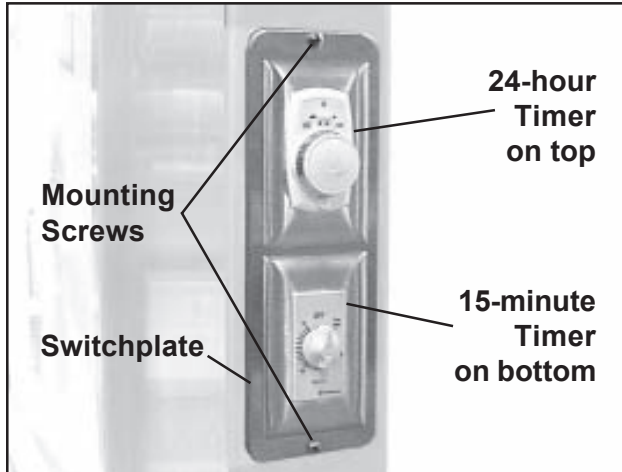

Figure 31. Light Timers and Mounting Screws on Switchplate
2. With a Phillips screwdriver, remove the two mounting screws (Figure 31) and gently pull the switchplate away from the column.
8. Mount the complete switchplate to the column with the two screws removed earlier (Figure 31). Make sure that no wires are trapped under the switchplate.
7. Mount the complete switchplate to the column with the two screws removed earlier (Figure 31). Make sure that no wires are trapped under the switchplate.
3. With a Phillips screwdriver, remove the two mounting screws (Figure 31) and gently pull the switchplate away from the column.
3. Mount the switchplate to the left column with the two screws removed earlier (Figure 31). Make sure that no wires are trapped under the switchplate.